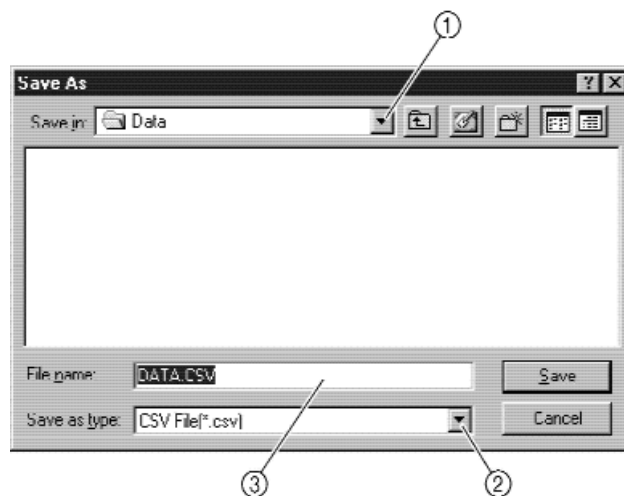

Fig. 30
2. Select the disk and folder where the data will be saved and specify its file name. (Fig. 30)
To cancel saving, click the **Cancel** button. (Fig. 30)